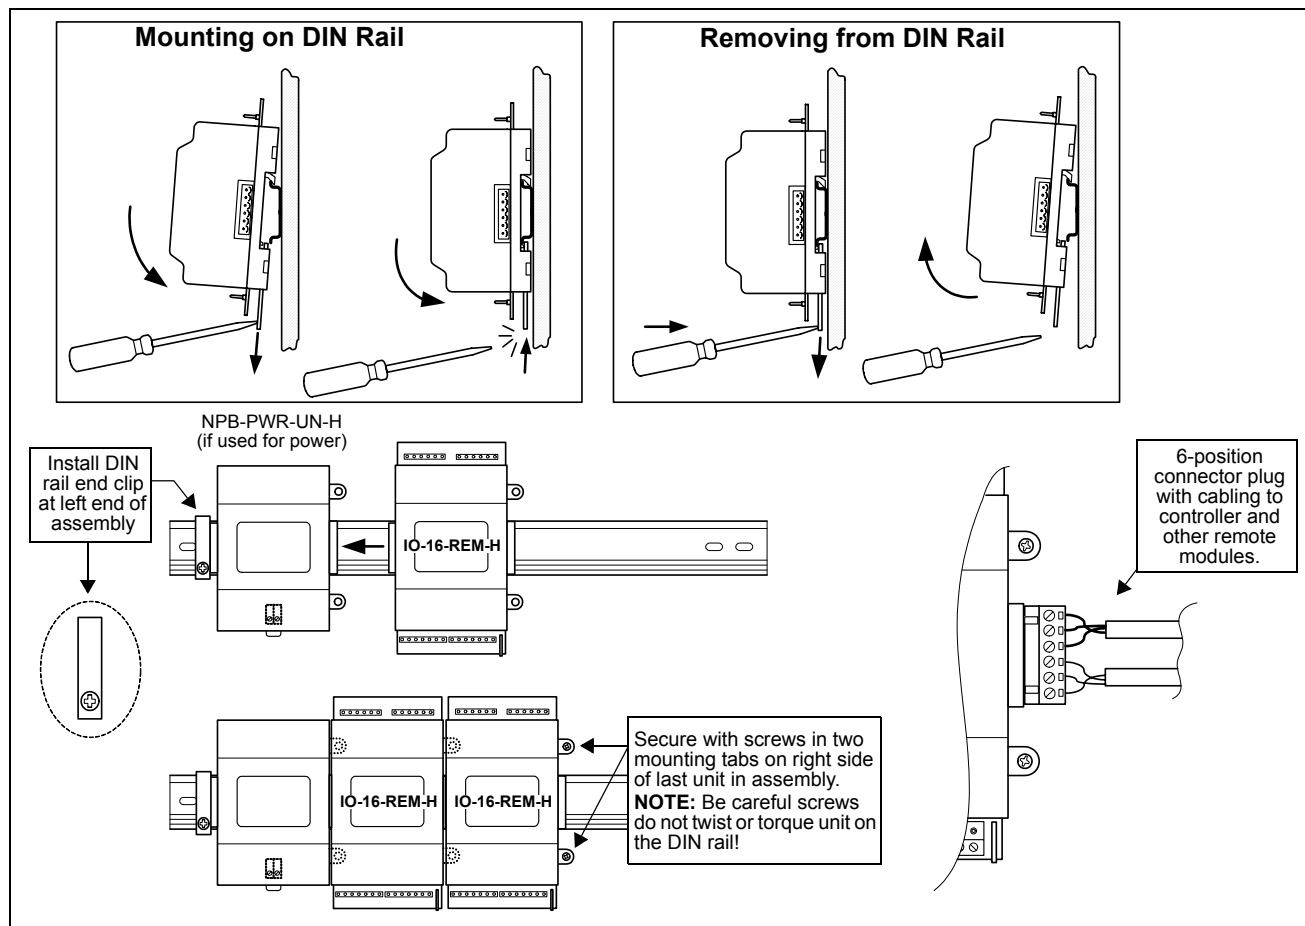

Fig. 1. IO-16-REM-H module DIN mounting details.
- If DIN mounting, a DIN rail, type NS35/7.5 (35mm x 7.5mm) and DIN rail end-clips (stop clips), and screws for mounting. See Fig. 1. If DIN rail not used, suitable screws for mounting base of Remote I/O Module module.
1. Position the IO-16-REM-H module on the rail, tilting to hook DIN rail tabs over one edge of the DIN rail (Fig. 1).